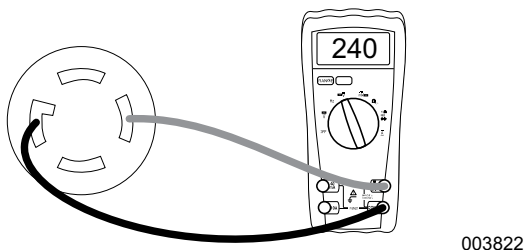

Figure 3-1. DMM Test Leads Connected to a 240 VAC Receptacle
5. See Figure 3-1. Place meter test leads into an outlet.